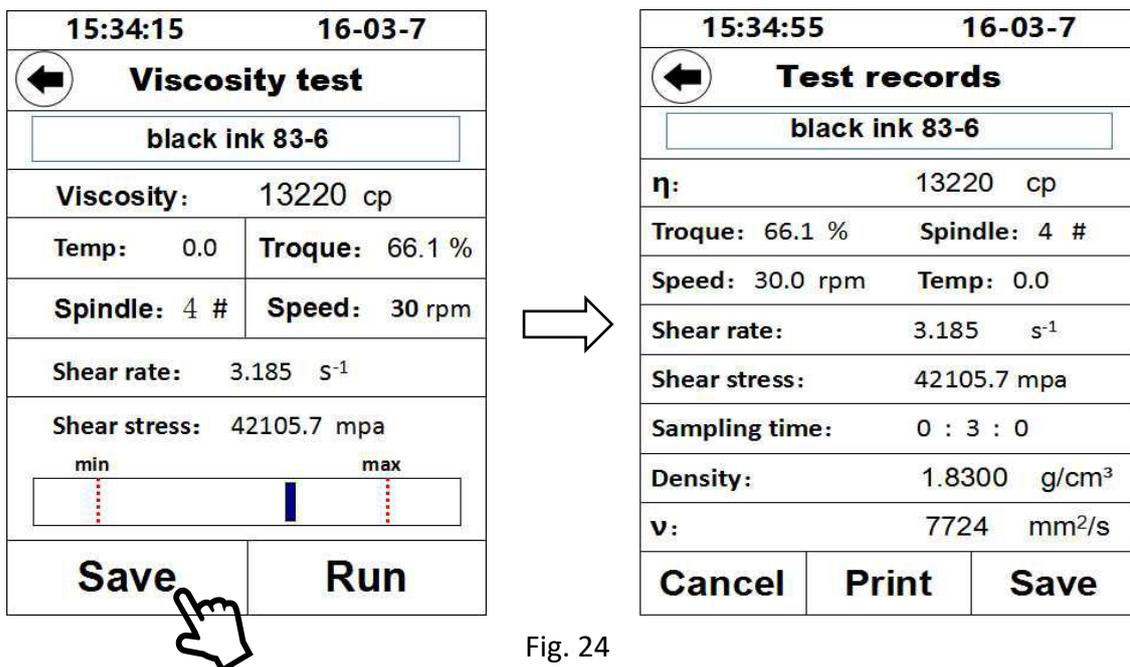

Fig. 24
1.7 Click "Stop" to finish the test. Click the "←" symbol to return to the test end screen, as shown in Fig 24. click "Save" to save the test record in the memory of the instrument, view and print in "Stored test" , and enter the sample name before saving, or nothing can be saved.